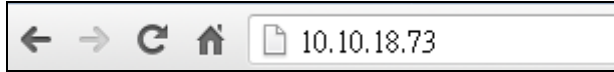

Figure 3-48: IEI iMAN Web Address
Step 2: On the remote management console, open a web browser. Enter the managed system IP address in the web browser (**Figure 3-48**).